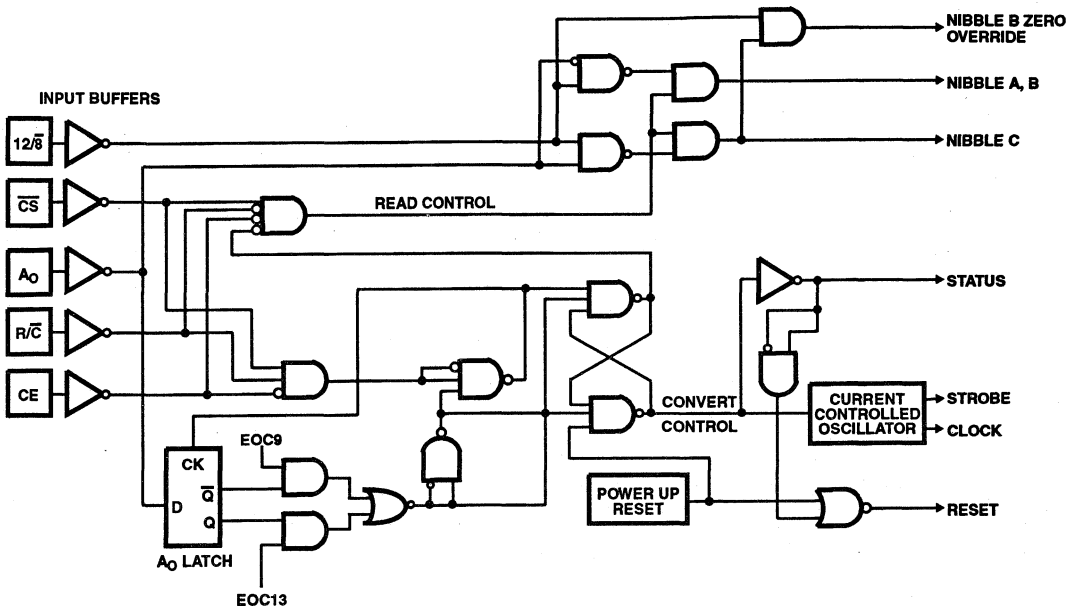

FIGURE 7. HI-774 CONTROL LOGIC
The HI-X74(A) includes logic for direct interface to most microprocessor systems. The processor may take full control of each conversion, or the converter may operate in the "stand-alone" mode, controlled only by the R/C input. Full control consists of selecting an 8 or 12 bit conversion cycle, initiating the conversion, and reading the output data when ready—choosing either 12 bits at once or 8 followed by 4, in a left-justified format. The five control inputs are all TTL/CMOS-compatible: (12/8, CS, AO, R/C and CE). Table 1 illustrates the use of these inputs in controlling the converter's operations. Also, a simplified schematic of the internal control logic is shown in Figure 7.